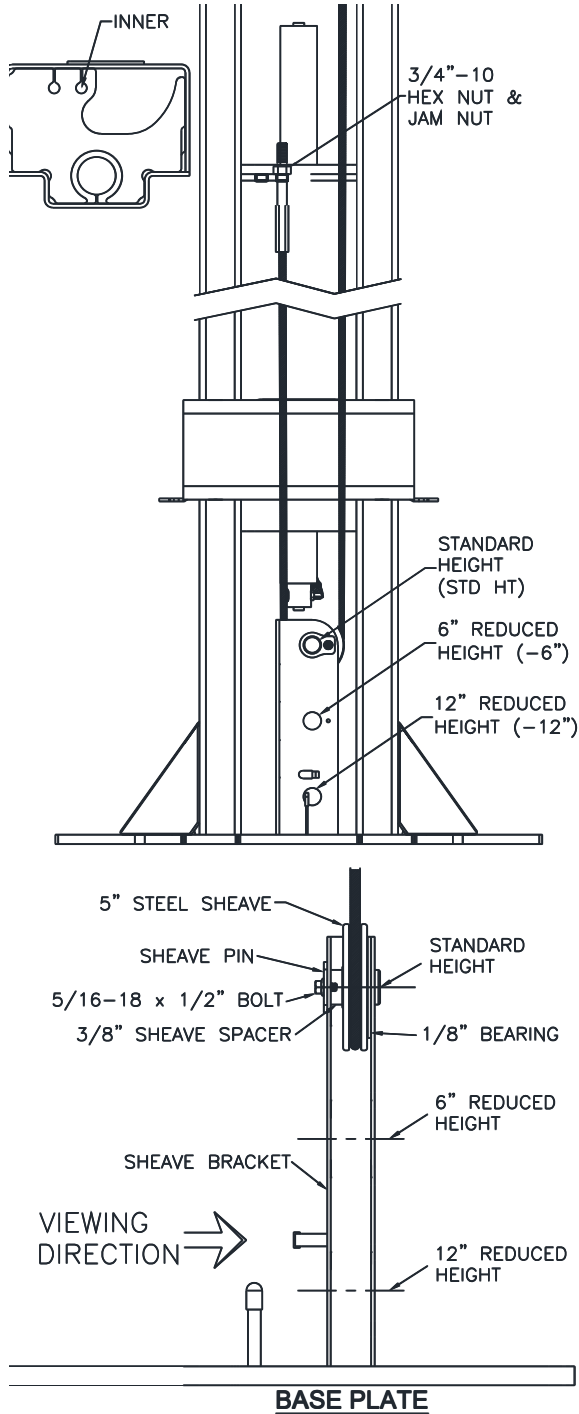

Fig. 2 – Cable Routing
- Manually push carriages up enough to unhook the cylinder hose from the base plate tabs. Proceed with pushing the cylinder and carriage up enough to access all three sheave locations on the sheave bracket, see **Fig 2**.
- 5) Determine the sheave location on the bracket based on Column Extension Height, see Fig 2. **Note: The column has been assembled with the sheave in the highest position on the bracket for the lift installed at STD (max) height.** Reposition the sheave to the middle hole for -6" install height and to the bottom position for -12" install height.
- 6) Remove the bolt, sheave pin, sheave, spacer, and bushing, Fig. 2, to allow the cable to be installed.
- 7) Route a cable through a carriage and out the bottom. Route, it back up and into the inside hole at the top of the carriage, see Fig 2. **Ensure cables do not twist or wrap around hoses during routing.**
- 8) Place the 1/8" spacer inside the bracket centered over the bracket hole based on the chosen install height. Install the cable on the sheave and slide into place. Stack the 3/8" spacer onto the sheave assembly. Still holding the sheave assembly, slide the pin into place. Install the bolt to secure the pin, see Fig 2.